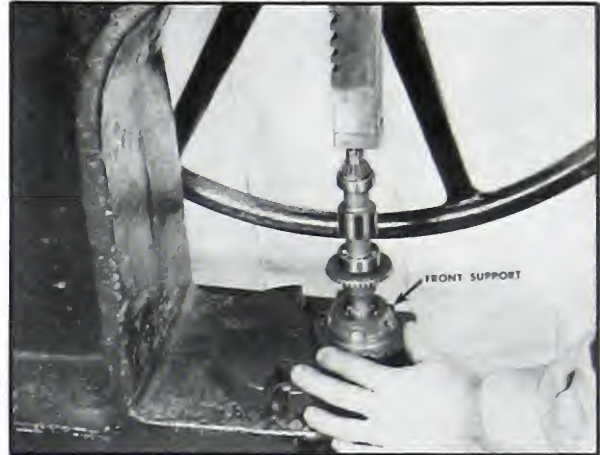

Fig. 5-319. Assembling front support to camshaft
10. Using ST-320 and ST-321 tools, press the front bearing support on the camshaft. Fig. 5-319.